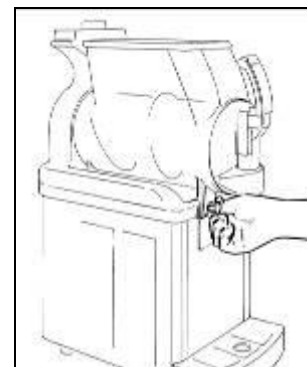

Fig. 17
- **F**ix the bowl by reinsert the knobs (fig.17).